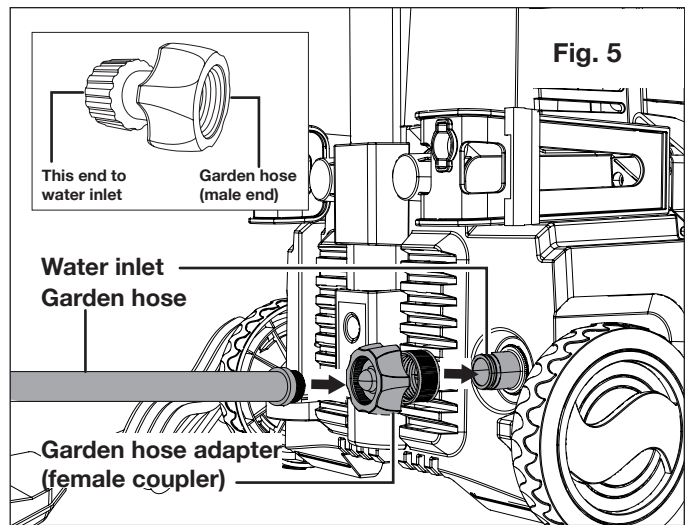

Fig. 5
4. Connect the garden hose adapter (female coupler) to the water inlet of the pressure washer, then thread your garden hose (male end) into the garden hose adapter (Fig. 5). The garden hose must have an internal diameter of at least 13 mm (1/2 in.) and must be reinforced. The water supply must be at least equal to the washer delivery capacity.